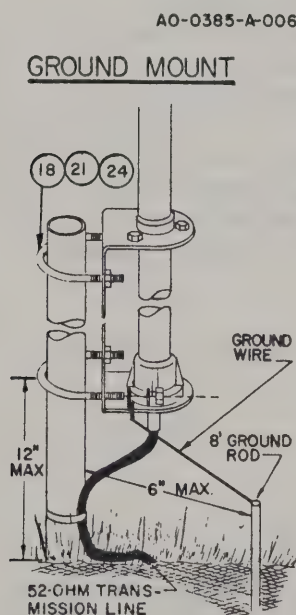

Figure 2
The 14AVQ/WB can be mounted on the ground, on a rooftop, or on a mast. When mounting the antenna above ground, remember that you must also install a ground plane radial system. When the antenna is ground-mounted, a radial system is usually not needed. But in some areas, where soil surface conductivity is poor and a good ground cannot be made using the method shown in Figure 2, you will need to lay out ground radials to improve the efficiency of your antenna.
Refer to the two mounting details of Figure 2 and Figure 6 in installing the completed antenna.
() First mount the completed antenna on your mast (not supplied) as shown in Figure 2. Use the two U-bolts and 5/16" nuts and lockwashers.
- () If you are ground-mounting your antenna, install it as shown in Figure 2 . You must install an 8 ft. (250 cm) ground rod as shown.